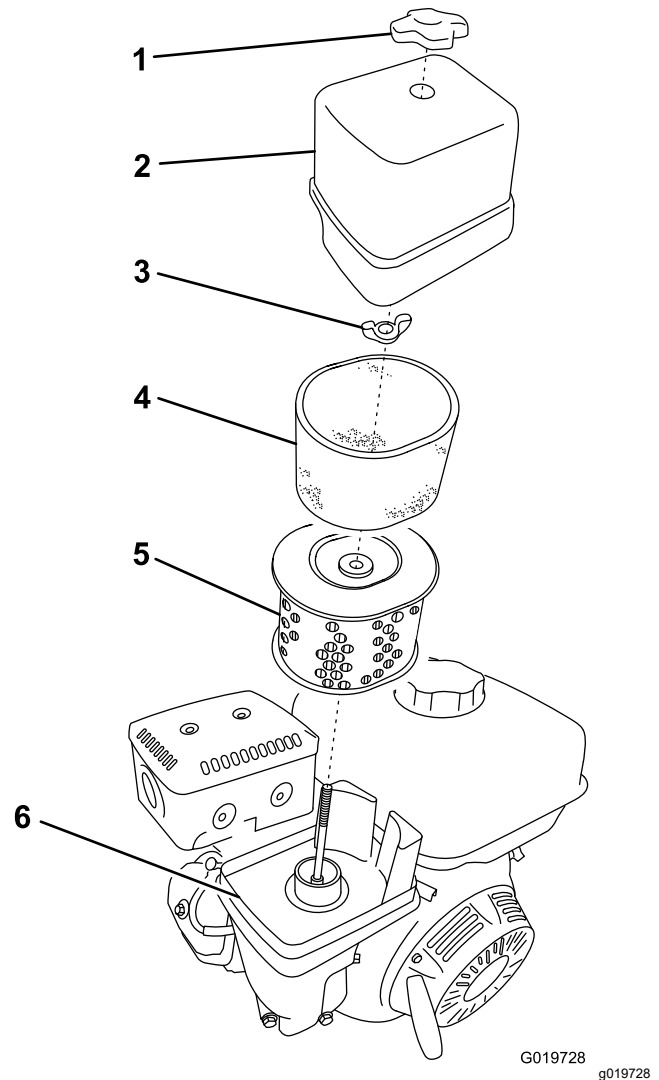

Figure 32
3. Remove the nut that secures the cover (Figure 32).
5. Remove the foam and paper elements from the base (Figure 32).
6. Remove the foam element from the paper element (Figure 32).